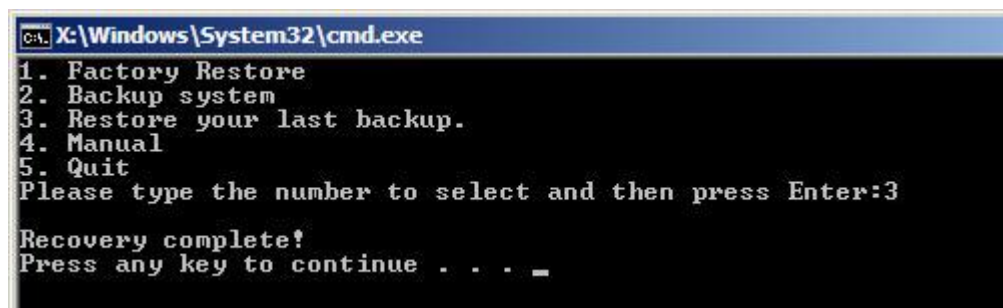

Figure A-41: Restore System Backup Complete Window
Step 3: The screen is shown as in **Figure A-41** when backup recovery is completed. Press any key to reboot the system.